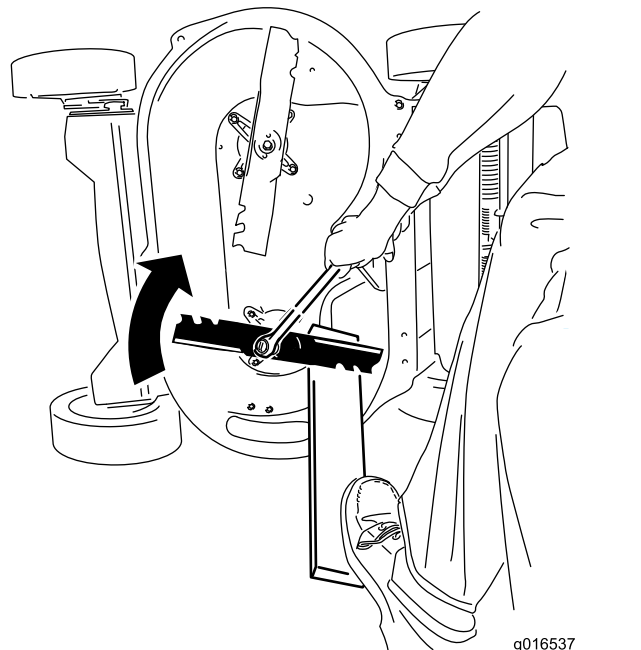

Figure 45
2. Steady each blade with a board and turn the blade bolt clockwise with a torque wrench as shown in Figure 45; torque the blade bolt to 82 N·m (60 ft·lb).